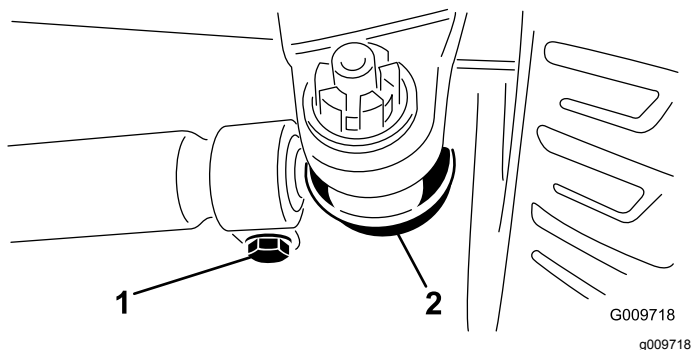

Figure 74
3. To adjust the toe-in, remove the cotter pin and the nut from either tie-rod ball joint (Figure 74).
5. Loosen the clamps at both ends of the tie rods (Figure 74).